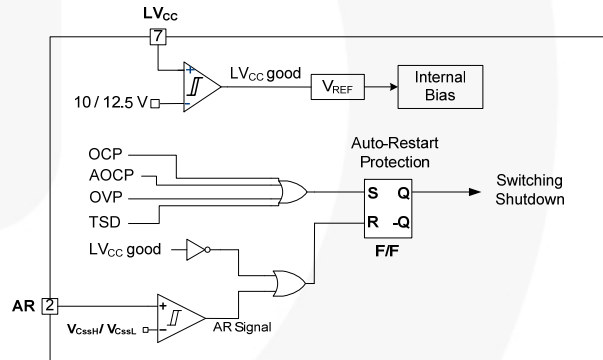

Figure 22. Protection Blocks
5. Protection Circuits: The FSFR-XS series has several self-protective functions, such as Over-Current Protection (OCP), Abnormal Over-Current Protection (AOC), Over-Voltage Protection (OVP), and Thermal Shutdown (TSD). These protections are auto-restart mode protections, as shown in Figure 22.